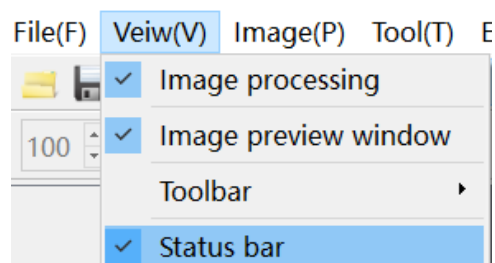

Fig. V-4 State Bar Switch
All operation state of the Application are integrated and displayed in the state bar at the bottom of the main interface. If the state bar is not visible, the user can use the "**View (V)**" -> "**State Bar**" in the menu bar to re-open the state bar (Fig. V-4).